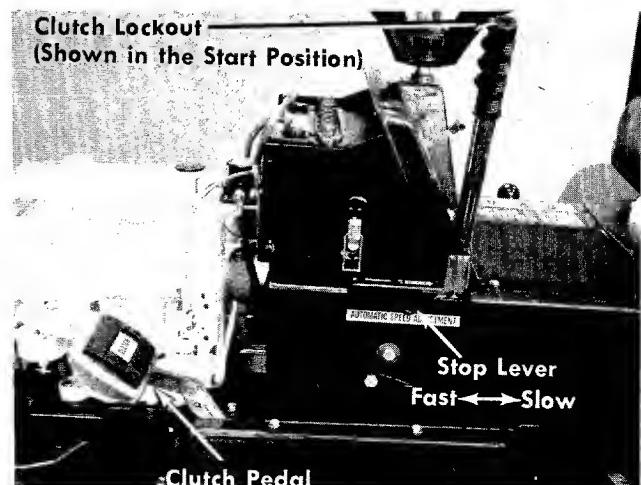

FIGURE 10. LEFT HAND CONTROLS
e. **Clutch Pedal.** The clutch pedal is used to disengage the drive mechanism. Depressing the clutch pedal at any time will reduce mower speed. If depressed all the way, it will stop the mower. See figure 10.
f. **Clutch Lockout.** When the clutch pedal is depressed all the way it can be locked by placing the clutch lockout in the START position as shown in figure 10. The clutch locknut must be in this position before the engine will start.
g. **Stop Lever.** The stop lever allows you to regulate the maximum ground speed of the riding mower by setting the stop lever in any one of the five settings. The farther forward the stop lever is set, the faster the ground speed. See figure 10.
Step 2. Place the clutch lockout in the START position. See figure 10.